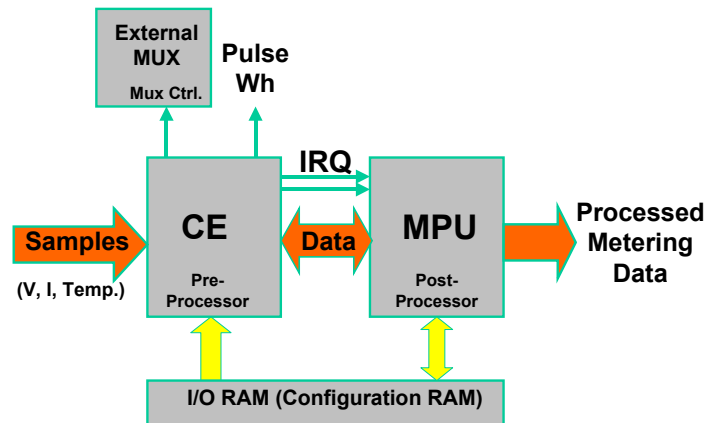

Figure 27: MPU/CE Data Flow
The data flow between CE and MPU is shown in Figure 27. In a typical application, the 32-bit compute engine (CE) sequentially processes the samples from the voltage inputs on pins ADC0_IN, ADC1_IN, ADC2_IN, performing calculations to measure active power (Wh), A^2h , V^2h for metering. These measurements are then accessed by the MPU, processed further and output using the peripheral devices available to the MPU.